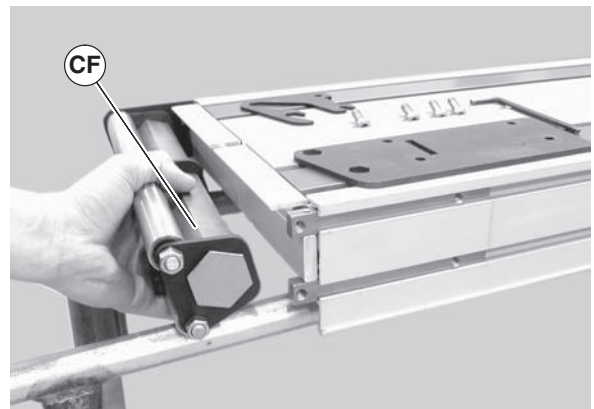

**Figure 67**
- Pull back the outer headplate (Figure 67, item V) and remove the inner spacer (BH).